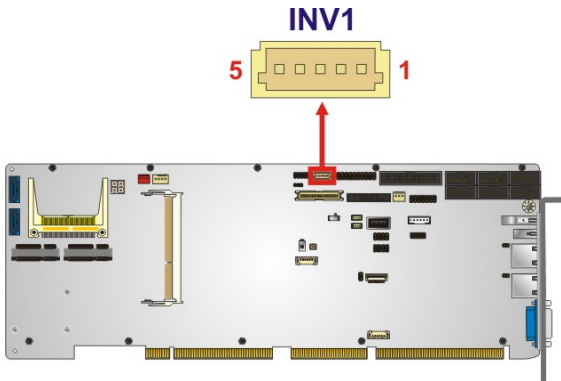

Figure 3-4: Backlight Inverter Connector Location
- CN Location:** See Figure 3-4